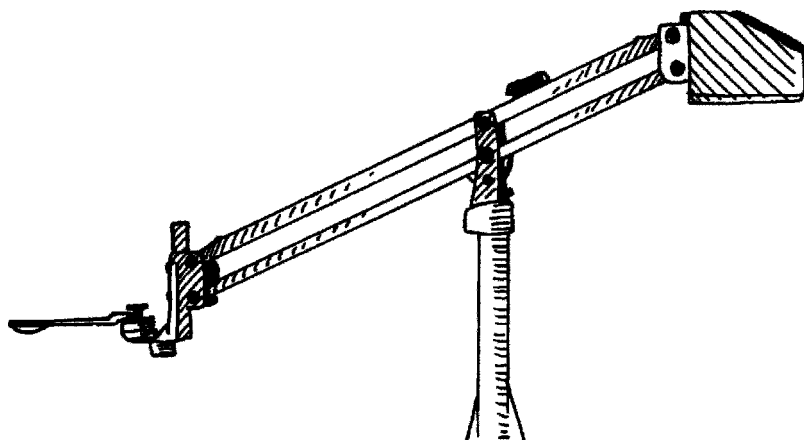

Figure 10.9 Egriment Mini-Jib/Arm, Model 124.
- **Egripment Mini-Jib/Arms Model 124** (Figure 10.9)